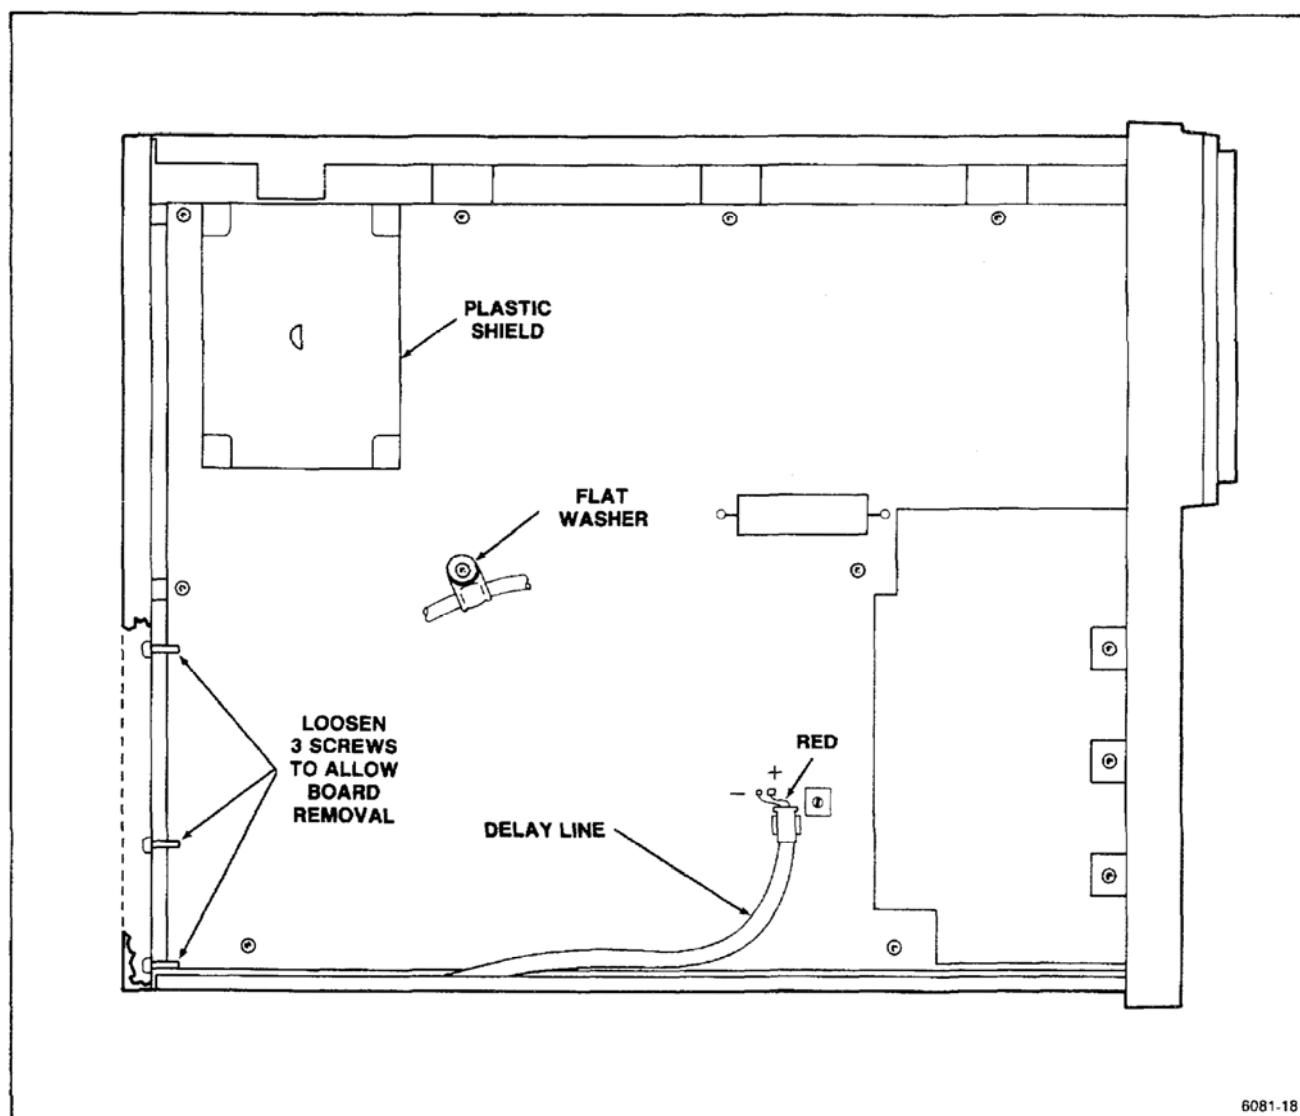

Figure 6-4. Main board removal.
8. Remove the top and bottom attenuator shields. The bottom shield is held with 5 screws and the top shield is held with one remaining screw. See Figure 6-4.
9. Unsolder the main delay-line wires from both sides of board (see Figures 6-4 and 6-5).
11. Remove the ten screws that hold the Main board to the chassis. Back out the three screws going through the rear panel enough to allow removal of Main board. See Figure 6-4.
17. Secure the Main board with ten screws. See Figure 6-4.
18. Solder both ends of delay line to Main board. Be sure to observe the polarity of the leads. See Figures 6-4 and 6-5. Press the ends of delay line into the clips on board.